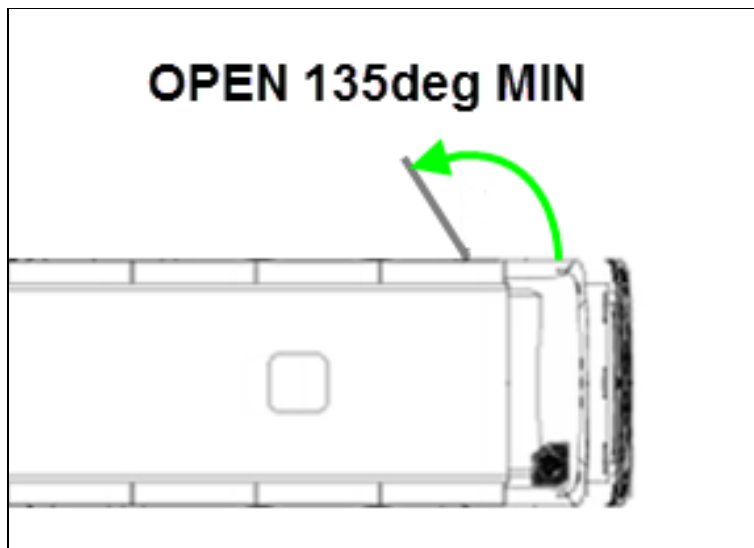

FIG.22 MIN DOOR OPENING
- 2) Open the compressor door at least 135deg to access the door frame section between the two hinges (Fig.22).